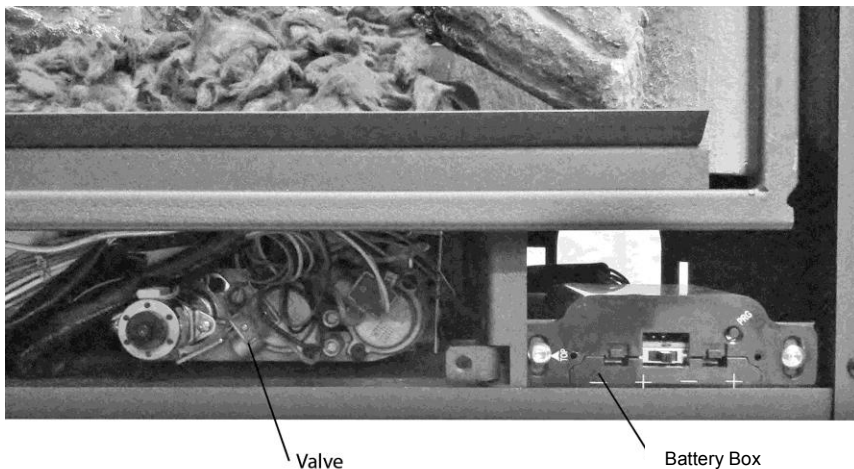
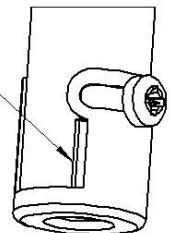

Figure 24: Valve Location
Figure 28: Door
1. Remove door (Fig. 28) and locate the valve as seen in Figure 24.
2. Lower the bottom edge of the door and secure it with 1/4" bolts to the relief arms as shown in figure 28.
1. Locate and remove the two 1/4" bolts securing the bottom of door as seen in figure 28.